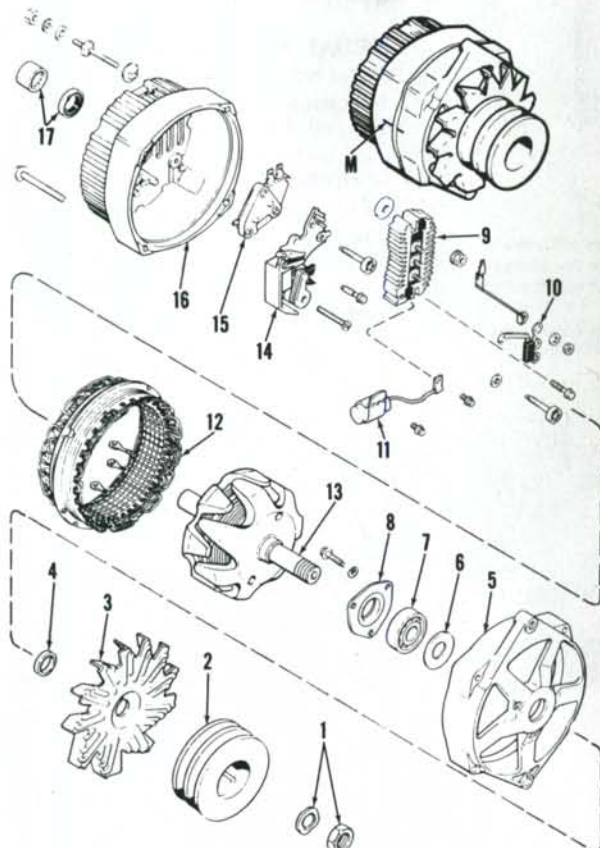
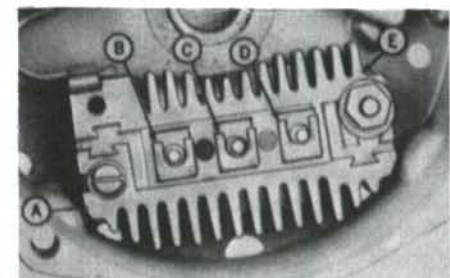

Fig. 85—Exploded view of "DELCOTRON" alternator used with internal mounted solid state regulator. Note matching marks (M) on end frames.
Fig. 89—Bridge rectifier test points. Refer to text.
To disassemble the alternator, first scribe matching marks (M—Fig. 85) on the two frame halves (5 and 16), then remove the four through-bolts. Pry frame apart with a screwdriver between stator frame (12) and drive end frame (5). Stator assembly (12) must remain with slip ring end frame (16) when unit is separated.
The rectifier bridge (Fig. 89) has a grounded heat sink (A) and an insulated heat sink (E) that is connected to the output terminal. Connect ohmmeter to the grounded heat sink (A) and to the ohmmeter lead connections. If both readings are the same, the rectifier bridge is defective. Repeat this test between points A and C, A and D, B and E, C and E, and D and E. Capacitor (11—Fig. 85) connects to the rectifier bridge and grounds to end frame and protects the diodes from voltage surges.
Brushes and springs are available only as an assembly which includes brush holder (14—Fig. 85). If brushes are re-used, make sure all grease is removed
Remove and inspect ball bearing (7—Fig. 85). If bearing is in satisfactory condition, fill bearing $\frac{1}{4}$ full with Delco-Remy lubricant No. 1948791 and reinstall. Inspect needle bearing (17) in slip ring end frame. This bearing should be renewed if its lubricant supply is exhausted; no attempt should be made to relubricate and reuse the bearing. Press old bearing out toward inside and press new bearing in from outside until flush with outside of end frame. Saturate felt seal with SAE 20 oil and install seal.